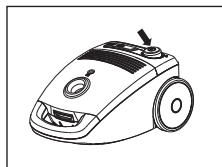
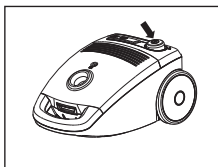
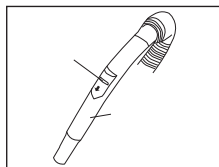

Fig. 6
Fig. 7
Fig. 8
4. Plug the vacuum cleaner into the outlet and switch it on with the on/off switch (Fig. 6). You can regulate the suction power/motor power using the suction power control (fig. 7) or to lesser extent using the suction power control on the hose handle. (fig. 8).